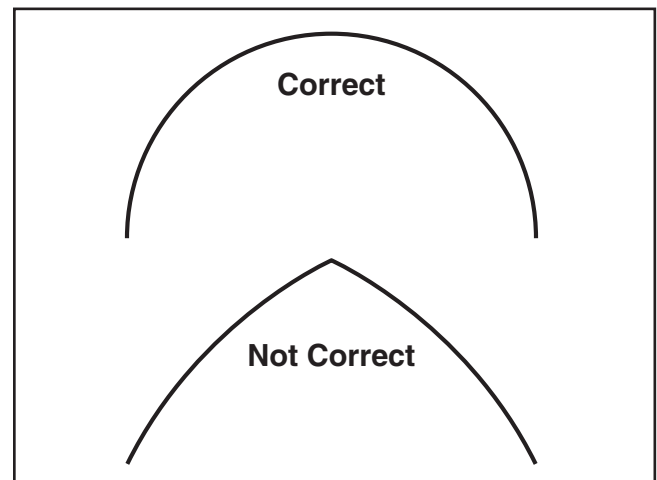

Figure 33. Correct blade weld bend for strength and flexibility.
19. Test the strength and flexibility of the weld by bending the blade in an arc similar to that of the bandsaw wheels. The blade should bend smoothly without any angles (see **Figure 33**).